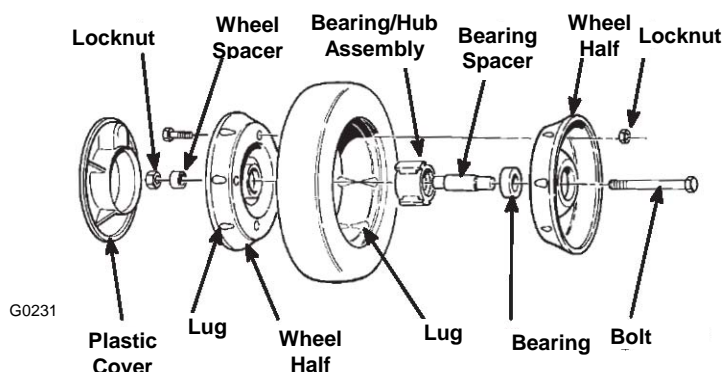

Figure 38
3. Loosen the nut on the cable bracket (Fig. 38).
3. Loosen the jam nut on the blade brake cable clamp (Fig. 38).
3. Remove the bolt, the wheel spacer, and the locknut mounting the wheel to the pivot arm (Fig. 38).
4. Separate the wheel halves from the tire by removing four bolts and four locknuts (Fig. 38).
NOTE: If you remove the bearings from the bearing/hub assembly, remove them by pressing on the bearing spacer (Fig. 38).
1. Position the tire onto one wheel half, aligning the lugs on each (Fig. 38).
2. Place the bearing/hub assembly into the center hole of the wheel half. Ensure that the legs of the hub are positioned over the flange of the hole (Fig.38).
3. Place the other wheel half onto the bearing/hub assembly, aligning the wheel and the tire slugs and the mounting holes (Fig. 38).
4. Using two fully threaded screws or bolts (1/3-20 x 1.5 in) and non-locking nuts, loosely secure the wheel halves together. Mount the screws or bolts in the opposing holes (Fig. 38).
5. Check the alignment of all parts and tighten the screws, alternating from side to side for a uniform fit until the wheel halves are drawn together (Fig. 38).
7. Install the wheel to the pivot arm with the cap screws, a spacer, and a locknut. Ensure that the spacer is positioned between the wheel hub and the pivot arm (Fig. 38).